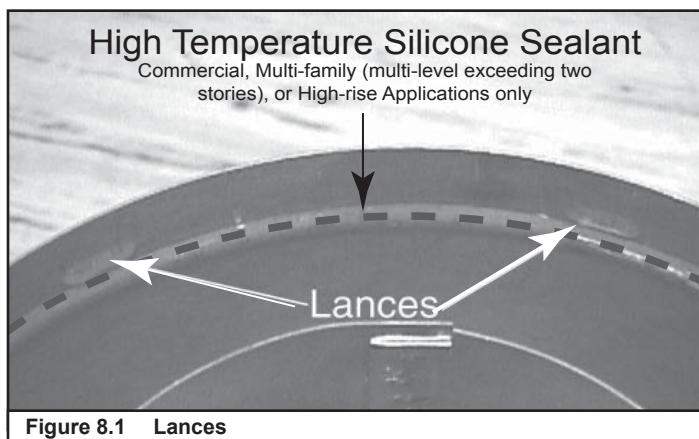

Figure 8.1 Lances
To attach the first pipe section to the collars, slide the male end of the inner vent of the pipe section over the inner collar on the firebox assembly. At the same time, slide the outer flue over the outer collar on the appliance. Push the pipe section into the appliance collar until all the lances (see Figure 8.1) have snapped in place. Tug slightly on the section to confirm it has completely locked into place.
- Apply a bead of silicone sealant inside the female outer pipe joint prior to joining sections. See Figure 8.1.